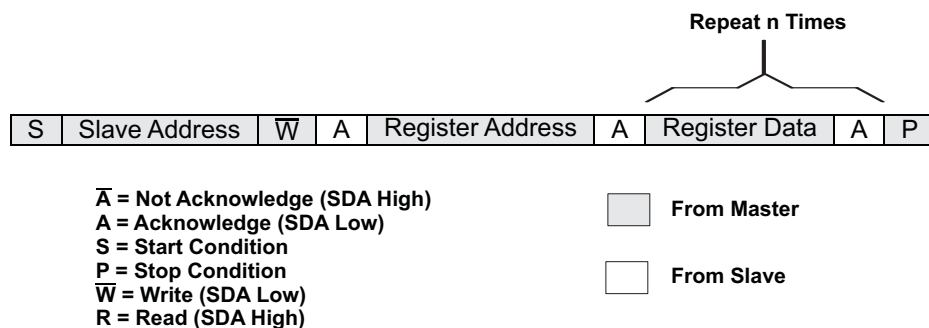
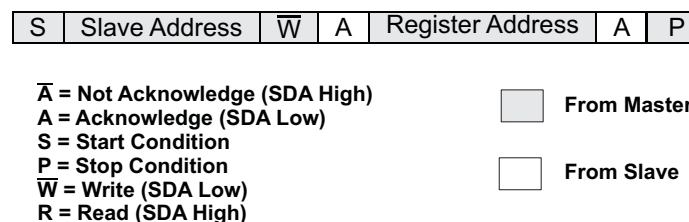
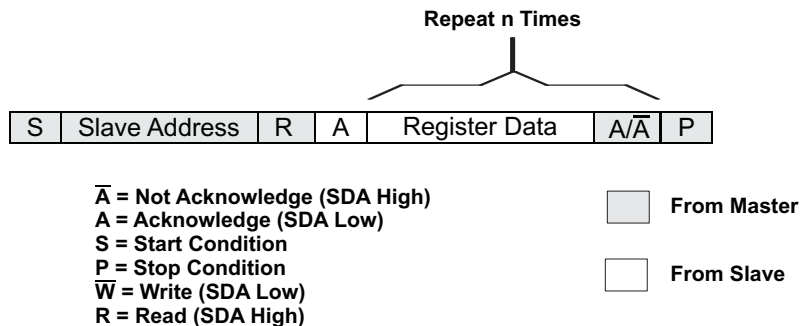
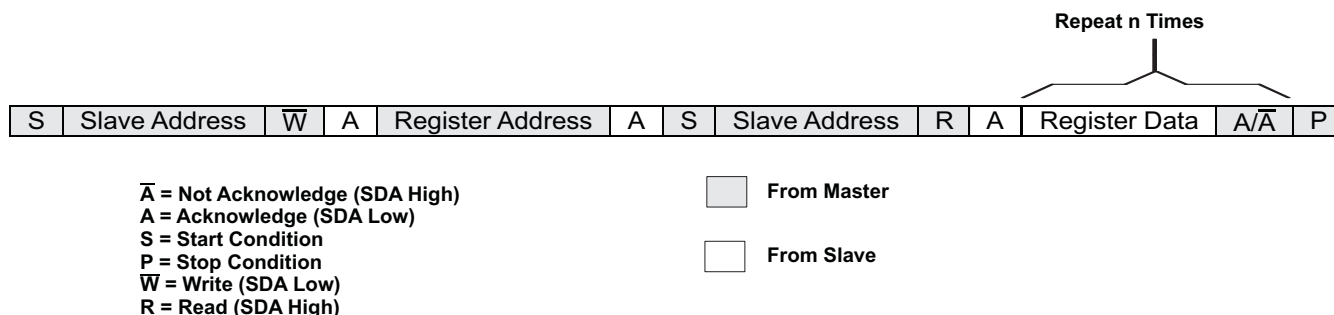

Figure 21. I²C Write Cycle with Register Address and Data
Figure 22. I²C Write Cycle with Register Address Only
Figure 23. I2C Read Cycle
Figure 24. I2C Combined Format Write/Read Cycle
During a write cycle, the slave sends an acknowledge (A) after every byte that follows the device address. The first byte following the device address is the register address, which maps to the register addresses specific to the device. The second byte following the device address is the data byte to be written at the register address (see Figure 21). If only the register address is to be written for a subsequent read sequence, the data byte is omitted and the sequence ends with a Stop (see Figure 22) or a repeated Start after the register address byte (see Figure 24). If multiple data bytes are to be written at subsequent register addresses, the master may continue to send data bytes after each slave acknowledge, and the slave device automatically increments the register address. Note that the master must not drive the SDA signal line during the slave acknowledge since the slave is in control of the SDA bus and may be holding it low.
During a read cycle, the slave acknowledges the initial address byte if it decodes the device address as its own device address. Following this initial acknowledge by the slave, the master device becomes a receiver and acknowledges data bytes sent by the slave. The first byte received by the master is the data stored at the register address, while subsequent bytes are data stored at incrementing register addresses. When the master has received all of the requested data bytes from the slave, the not acknowledge (A) condition is initiated by the master by keeping the SDA signal high just before it asserts the Stop (P) condition. This sequence terminates a read cycle as shown in Figure 23. A combined format is when the read cycle is preceded by a write cycle for setting the register address, and is shown in Figure 24.